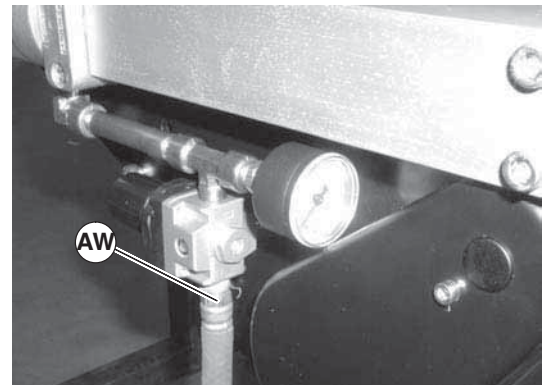

Figure 79
1. Remove air supply and remove hose (Figure 79, item AW) from center drive.